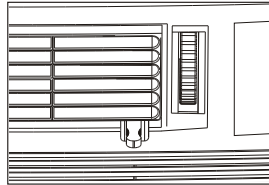

Figure 2 (VENT OPEN)
2. Draw fresh air into the room - Vent Open (See Fig. 2)